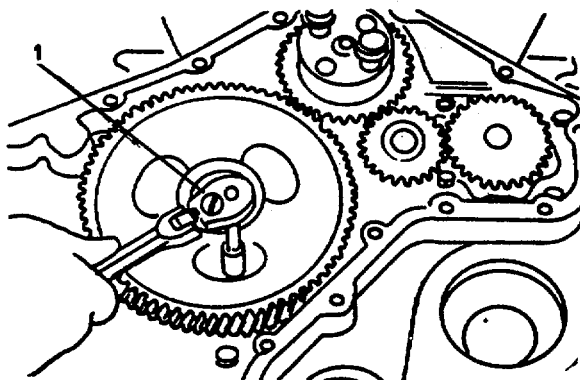

FIGURE 3-74. Spur Gear Removal.
- b. Remove spur gear (1, FIGURE 3-74).